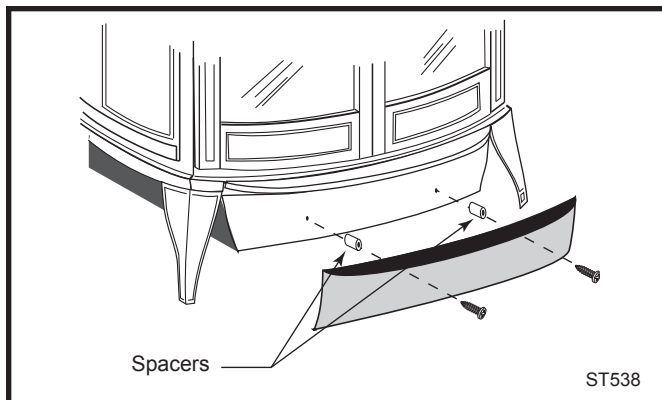

Fig. 24 Install the ashdoor heat shield.
2. Insert the screws through the ash door heat shield (from the painted side), place the 5/16" spacers over the screws, and carefully thread them back into the original holes. (Fig. 24) The curved lip should be upward, under the ashlip of the stove.